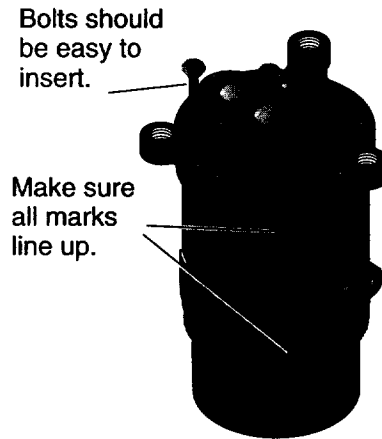

Figure 26
12. Insert the four base capscrews and tighten evenly (see Figure 26). These should be easy to install if everything is correctly aligned. *If not, don't force them; go back over your work and find and correct the misalignment.*